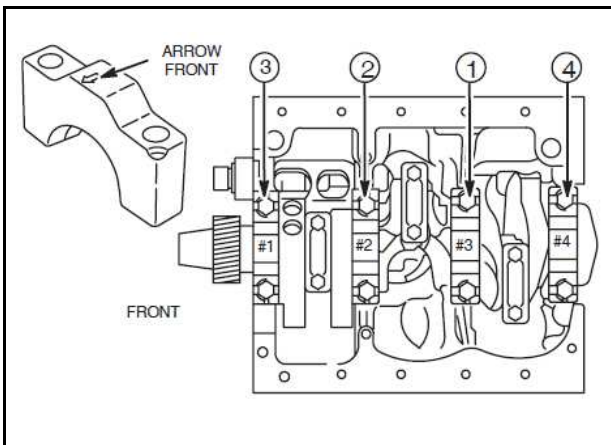

Fig. 4 - Installing Main Bearing Caps
4. Install main bearing caps, Fig. 4. Lubricate threads of screws with engine oil.